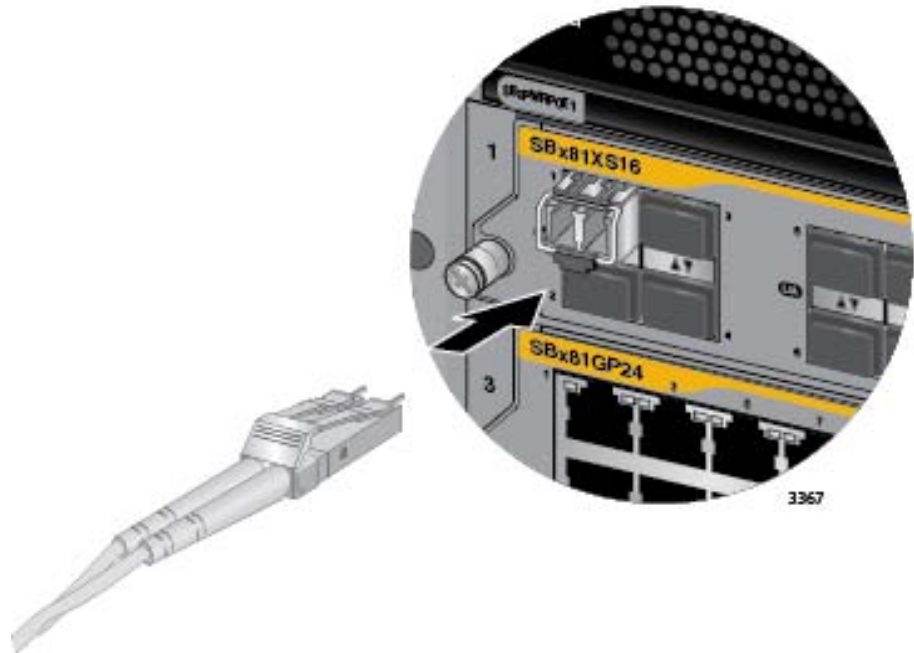

Figure 95. Attaching a Fiber Optic Cable to a Transceiver in the AT-SBx81XS16 Line Card
5. Connect the fiber optic cable to the port on the transceiver, as shown in Figure 95 on page 159. The connector should snap into the port.